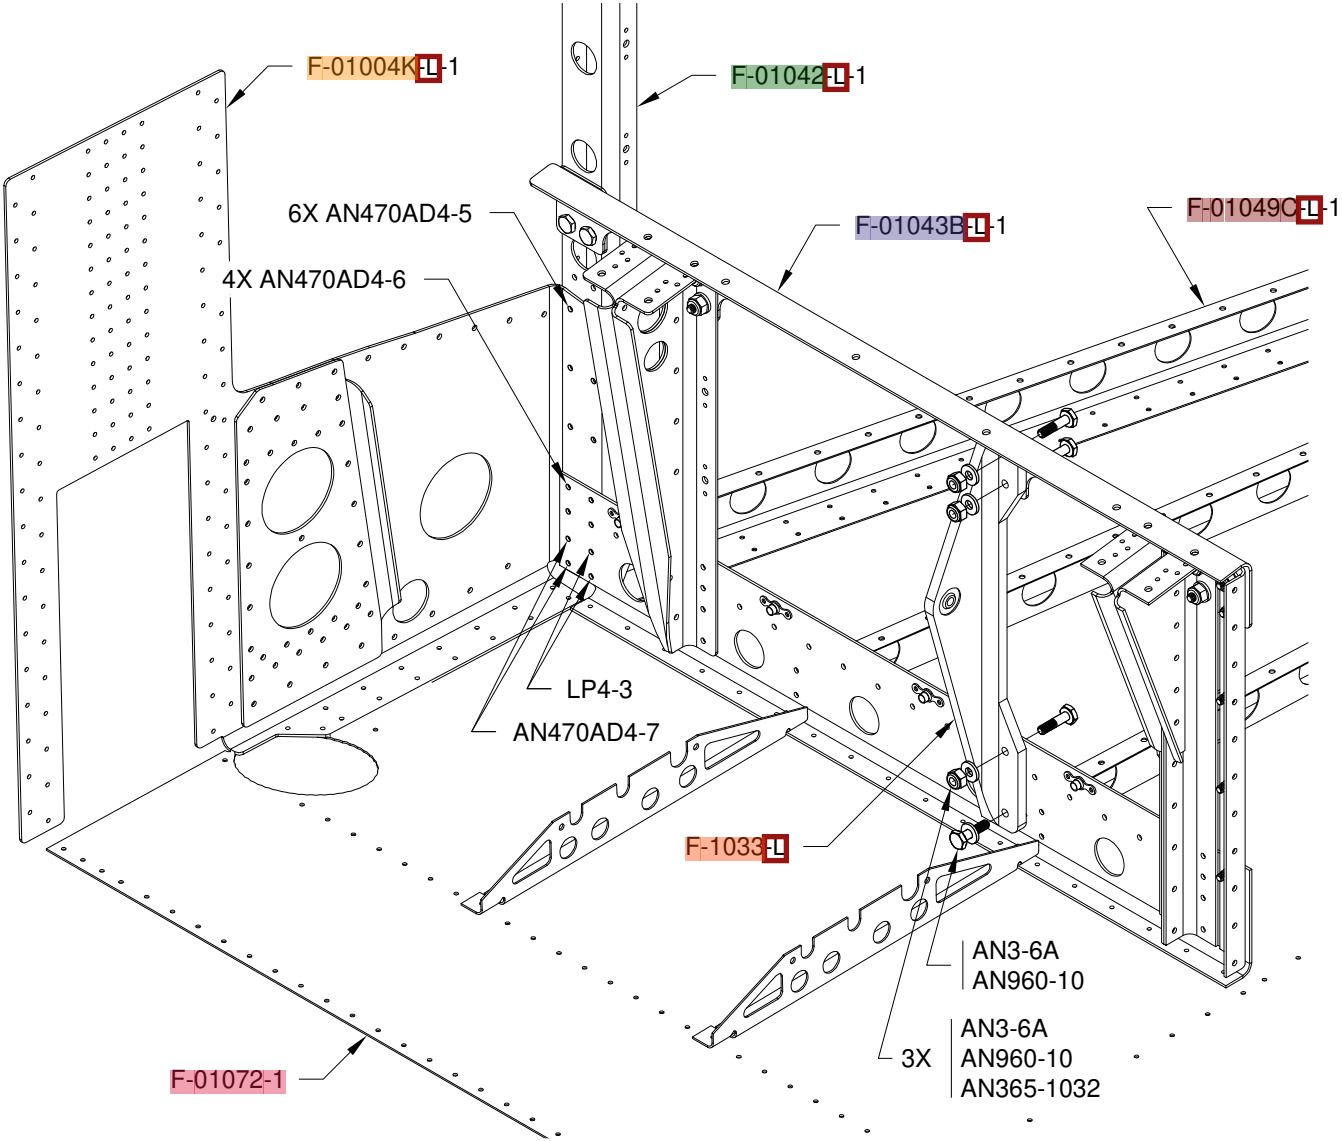

FIGURE 1: INSTALL BULKHEAD SIDE CHANNEL, FWD FUSELAGE BULKHEAD, AND CONTROL COLUMN MOUNT
Step 4: Cleco the F-01004K-L-1 & F-1043A-L & R Center Section Side Plates to the Fwd and Aft Center Section Bulkhead Assemblies. Cleco the center section side plates to the F-01072-1 Fwd Fuse Bottom Skin. See Page 28-9, Figure 1.
Step 5: Cleco the F-01042-L-1 & F-1043A-L & R Bulkhead Side Channels to the F-01004K-L-1 & -R-1 Center Section Side Plates and F-1043A-L & R Fwd Fuselage Bulkheads as shown in Figure 1 and Page 28-4, Figure 2.
Step 6: Bolt the F-01043B-L-1 & F-1043C-L & R Attach Angles, Inbd Fwd Seat Rail Supports, Outbd Fwd Seat Rail Supports, and F-01042-L-1 & F-1043A-L & R Bulkhead Side Channels as shown in Figure 1 and Page 28-4, Figure 2.
Step 7: Bolt the F-1033-L Control Column Mount to the F-1043A-L and F-01043B-L-1 Fwd Fuselage Bulkheads as shown in Figure 1.
Step 9: Blind rivet the F-1043A-L Fwd Fuselage Bulkhead, forward flange of the F-01004K-L-1 Center Section Side Plate, and F-01042-L-1 Bulkhead Side Channel as shown in Figure 1.